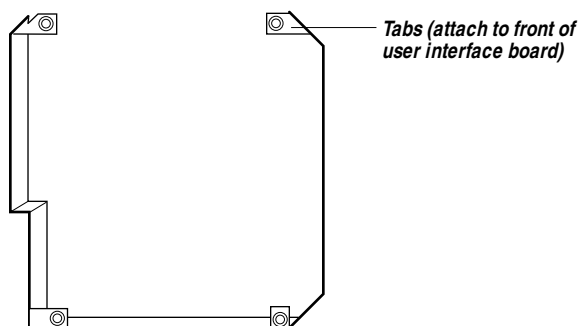

Figure 5-11 UIB shield
3. *Some units may have a UIB shield installed around the edges of the user interface board (see Figure 5-11). If the UIB shield is attached, carefully remove it.*